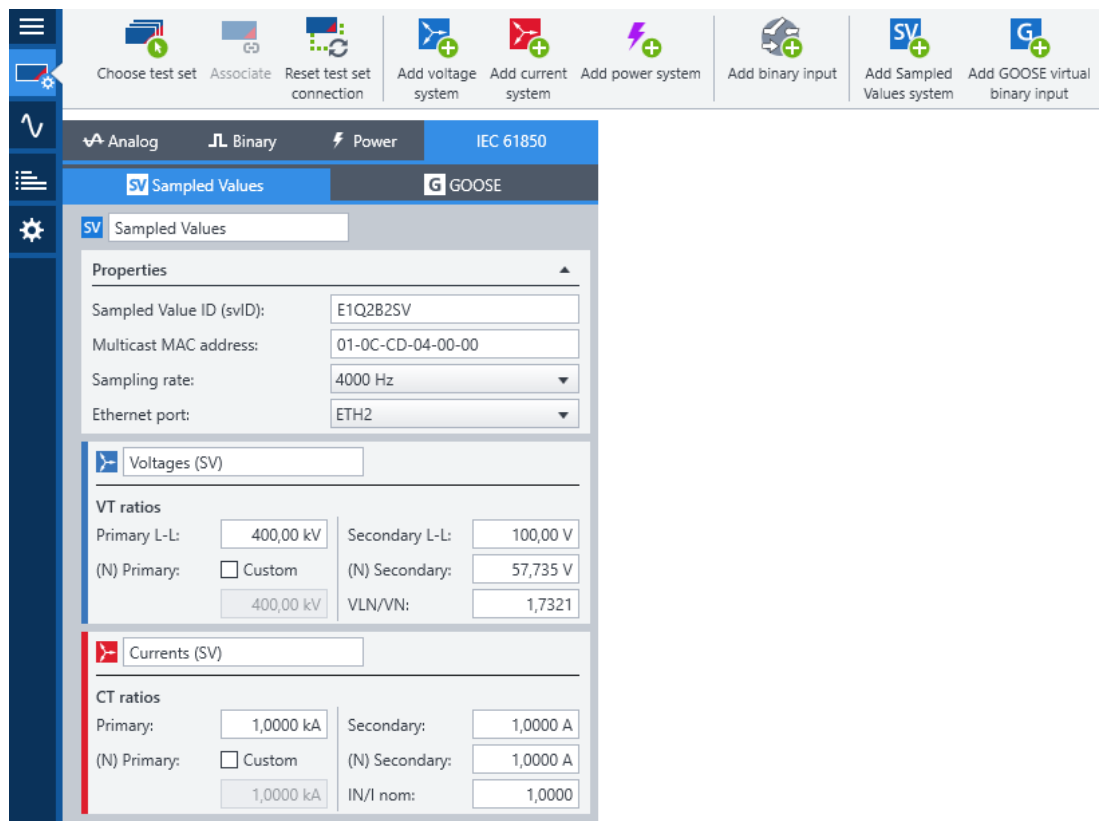

Figure 6: Test set configuration for Sampled Values measurement streams.
- d. Configuration of IEC 61850 Sampled Values measurement streams, as exemplarily shown in Figure 6: